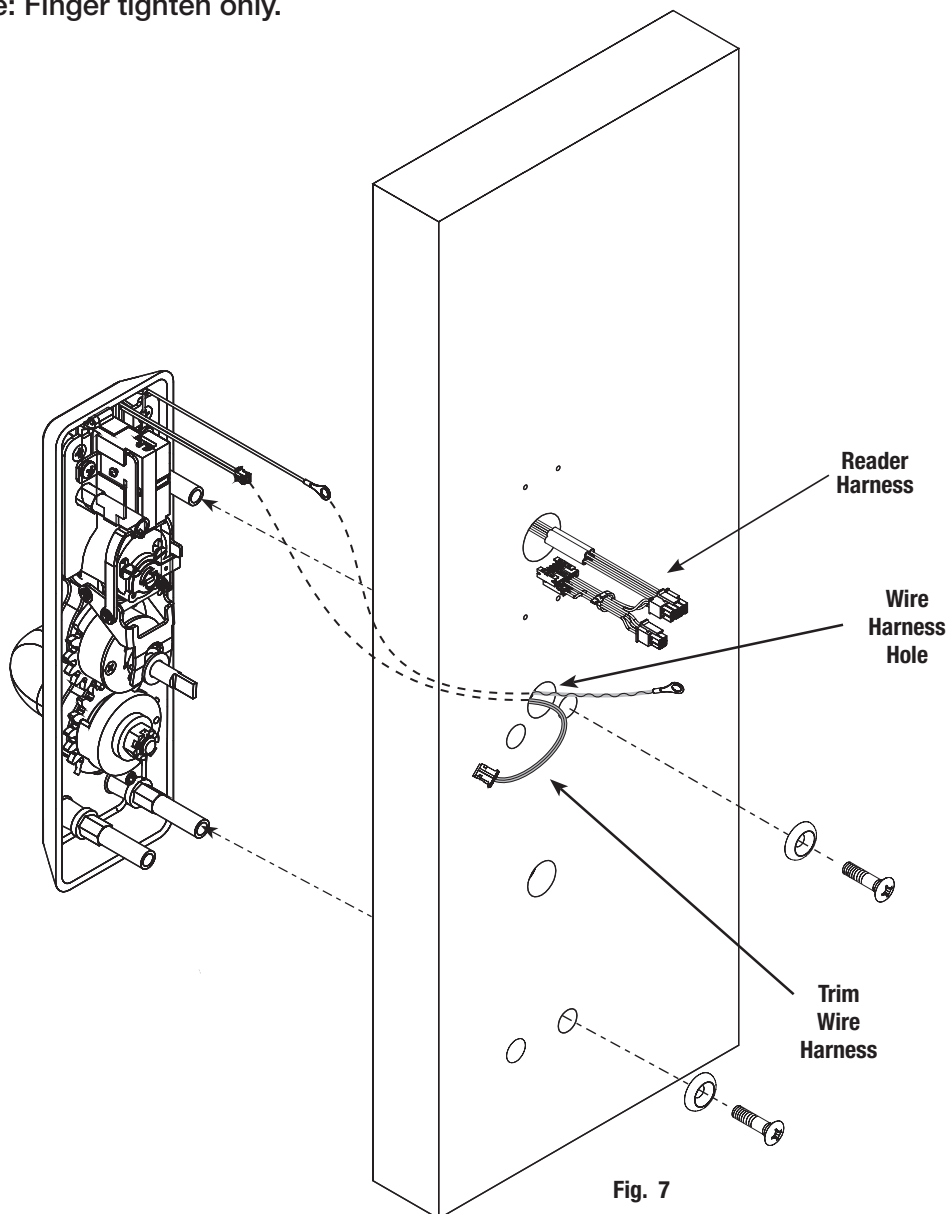

Fig. 7
- b. Feed trim wire harness through wire harness hole (Fig. 7).
- d. When mounting trim, lift tailpiece to pass through hole on device side (Fig. 7).
- e. Fasten trim assembly to door using (2) 1/4-20 oval head screws and (2) finish washers (Fig. 7).